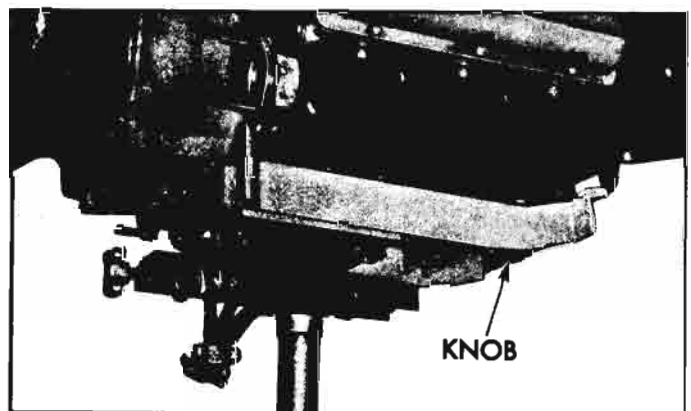

Fig. 6-7—Engine Lift Fixture J-7894 Installed
19. Position a hydraulic transmission jack stand under the engine assembly, using J-7894. Insert locking knob shown in Figure 6-7 and tighten securely. A hole in the rear of J-7894 is provided